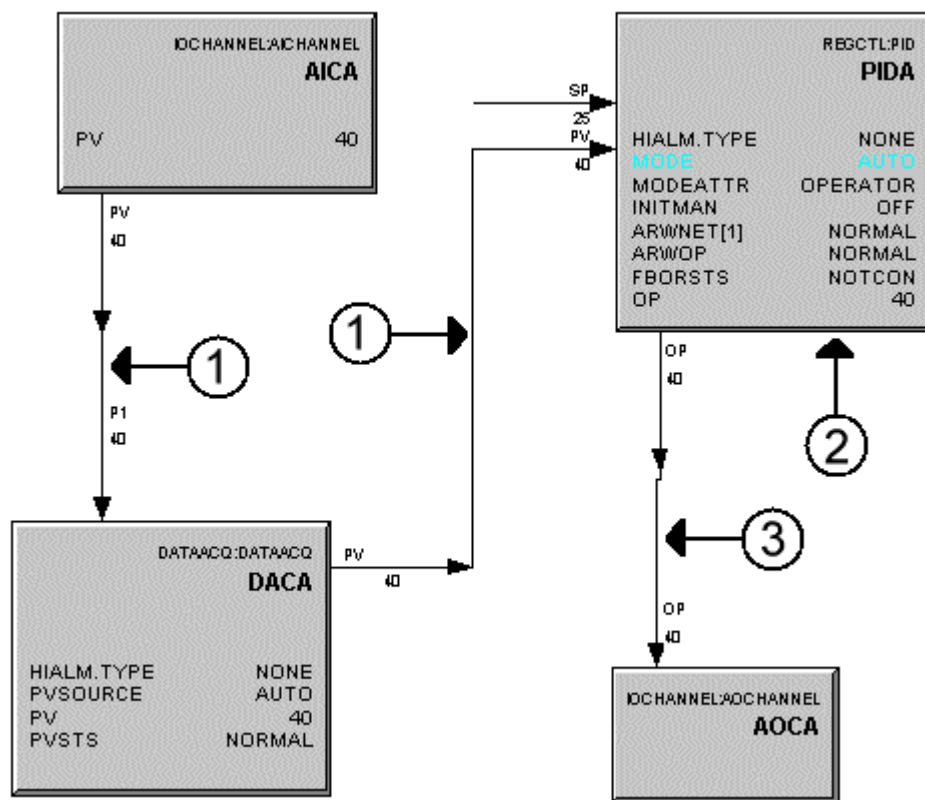

Figure 18 Example of CB configuration using a PID block for single loop control.
- Single PID Loop: Figure 18 and its companion callout description table show a sample configuration that uses a PID block to form a single control loop for quick reference. The view in Figure 18 depicts a loaded configuration in Monitoring mode.
The following table includes descriptions of the callouts in Figure 18.
3	Use the BACKCALCIN/BACKCALCOUT connection to carry secondary data from the AOC block to the secondary PID block and from the secondary PID block to the primary PID block. The individual BACKCALCIN/BACKCALCOUT connections for each output used are automatically built by Control Builder as implicit/hidden connections. See the description for Callout 2 in the table for Figure 18 for more detailed information about the elements that makeup the secondary data.